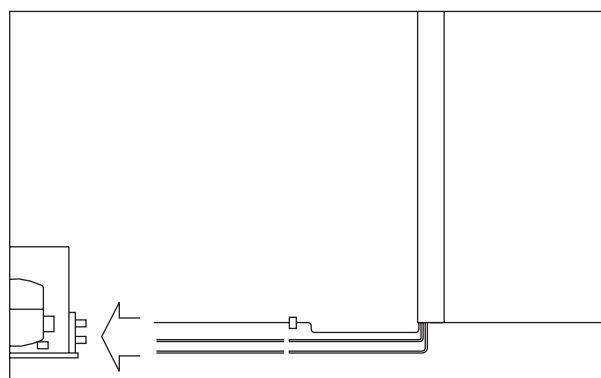

Fig.7
13.2 Retarder-proofer/dough-retarder Refrigerated Room REM (Fig. 7)